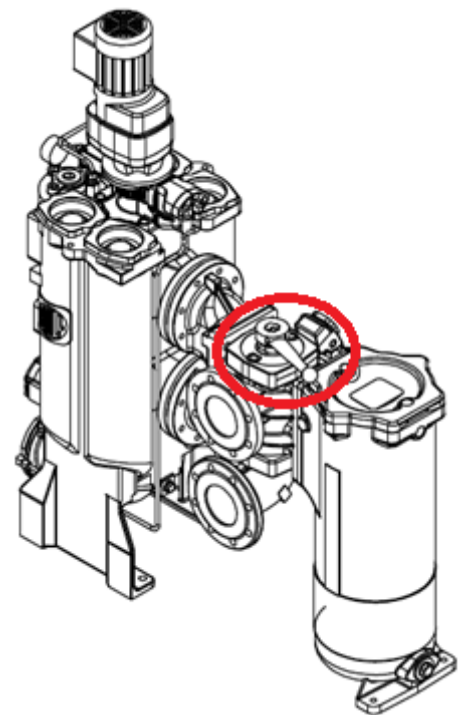

Figure 2 – The handle used for changing between the Main filter and the SFF/Redundancy filter.
- Direct the hydraulic flow to the SFF filter with the handle (shown in Figure 2).